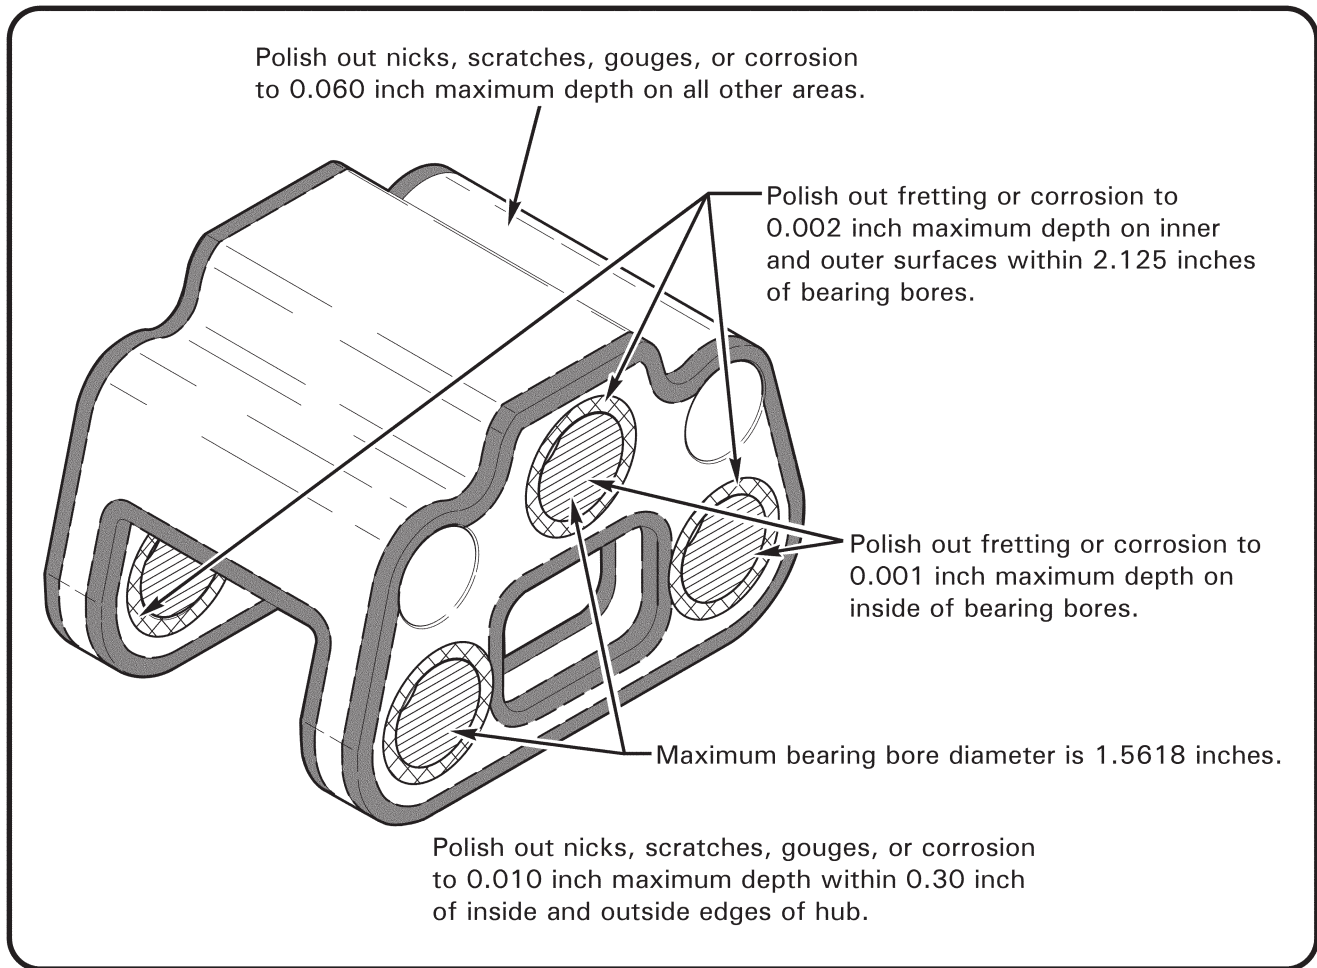

FIGURE 62-6A MAIN ROTOR HUB REPAIR LIMITS
3. Refer to Figure 62-6A. If required, polish surfaces using 320-grit or finer wet-or-dry sandpaper to 0.25 inch minimum blend radius.